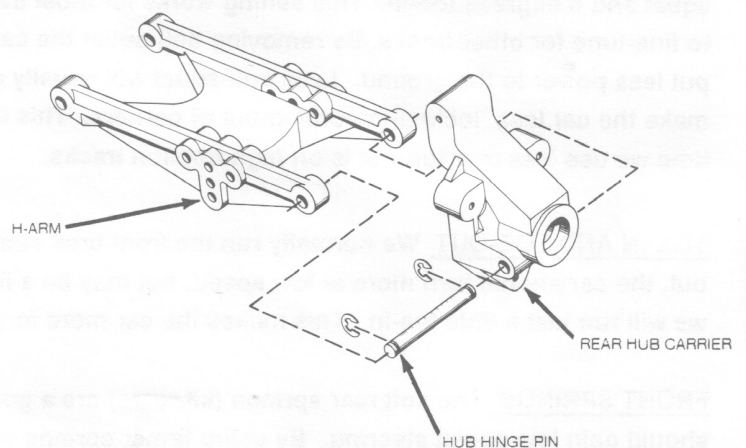

FIG 4
35. Secure hub carriers to H-arms and reconnect drive shafts. Refer to FIG. 4